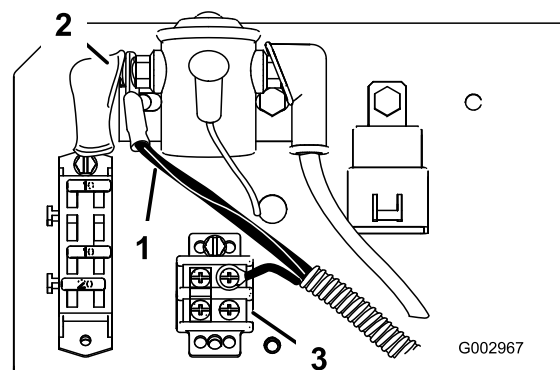

Figure 38
4. Under the operator's seat, connect the single black wire (ground) in the middle of the wire harness to the ground block (Figure 38) located under the seat near to the solenoid.
5. Connect the red power wire to the right side of the solenoid (Figure 38), located under the seat.